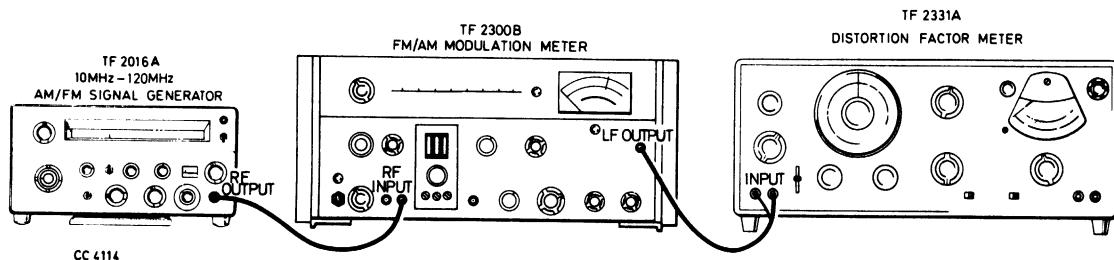

Fig. 3 Checking f.m. and a.m. distortion.
- (1) Set the FUNCTION selector at CW and CARRIER switch at ON then ensure that the pointer of the MOD/CARRIER meter is within the white box.
- (2) Connect the counter to the RF CUTPUT socket on the front panel. Set the CARRIER RANGE selector in turn to ranges 1 to 12 and check, using the TUNE, FINE TUNE and EXTRA FINE TUNE controls, that the scale calibrations at three points on each range, i.e. low and high frequency ends and at a centre frequency, are within $\pm 2\%$ of counter indication.
- (3) If necessary, for ranges 1 to 9 inclusive, adjust the appropriate tuning coil core for low frequency correction and the appropriate trimming capacitor for high frequency correction. Since the coil and trimmer capacitor are interdependent ensure that after the second adjustment the first adjustment remains correct.
- (4) For ranges 10 to 12, range 12 should be adjusted first. Coarse adjustment is carried out by repositioning the wire loop (three alternative positions are shown illustrated in Chap. 7, Fig. 3) or if necessary by altering the length of loop. Fine adjustment is carried out by means of a small coil former inside the printed coil L12 and its associated trimming capacitor; then adjust range 11, and then range 10. This is because the coils for ranges 10 to 12 are connected in series.
- (1) Connect the test equipment as shown in Fig. 3.
- (2) Set the FUNCTION selector at CW, the CARRIER switch at ON, the MOD switch at ON and the frequency of TF 2016A at 30 MHz. Then check that the pointer of the MOD/CARRIER meter is within the white box.
- (3) Set the FUNCTION selector at INT AM. Then adjust the SET MOD control to centre the pointer of the MOD/CARRIER meter.
- (4) Set the AM DEPTH control at 30%. Then tune the modulation meter to TF 2016A and check that the distortion indicated on the distortion factor meter is not greater than 1.5%.
- (5) If required, repeat the check using the external a.f. generator for modulation frequencies at 100 Hz and 10 kHz.
- (1) With the test equipment connected as in Fig. 3 repeat para. 24 (2). Then